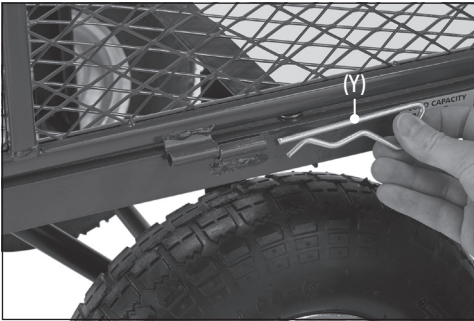

Fig. 17
2. Pass an R-pin (Y) through each of the four pairs of loops to fix the panels to the cage bed. (Fig. 17).